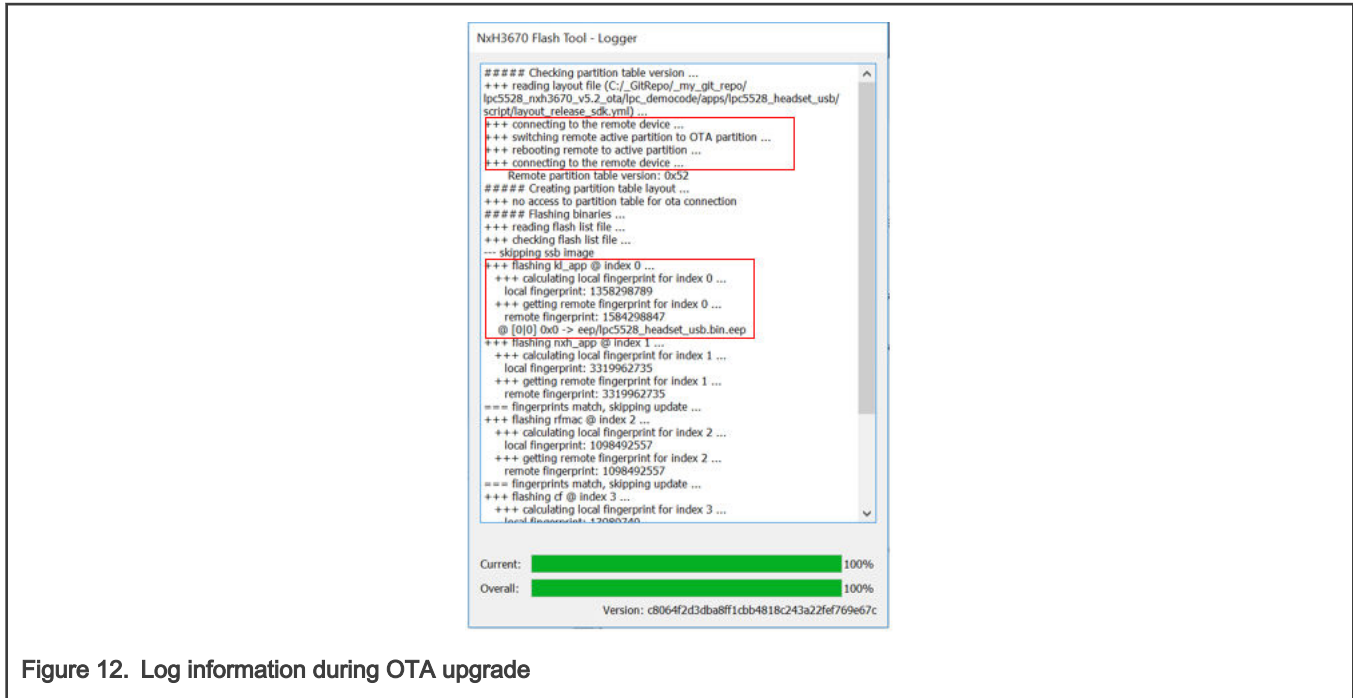

Figure 12. Log information during OTA upgrade
During the OTA upgrade, the log information is printed in the NxH3670 Flash Tool Logger window, as shown in Figure 12.
As shown in Figure 12, after receiving the OTA upgrade command from the PC, the dongle will first send a command to the remote (gamepad) to make the gamepad enter the OTA mode, reconnect the gamepad, and then send the specific binaries provided by *flashlist_debug_sdk.yml* file to the gamepad. Before sending, the NxH3670 Flash Tool compare the remote image header and the local (PC) image header firstly. If the contents of the image headers are the same, the upgrade progress of current file will be skipped. If they are different, the current file will be sent to the gamepad and written into the specified position of gamepad. After the OTA process is completed, dongle send the reboot command to restart the gamepad and run the new firmware.